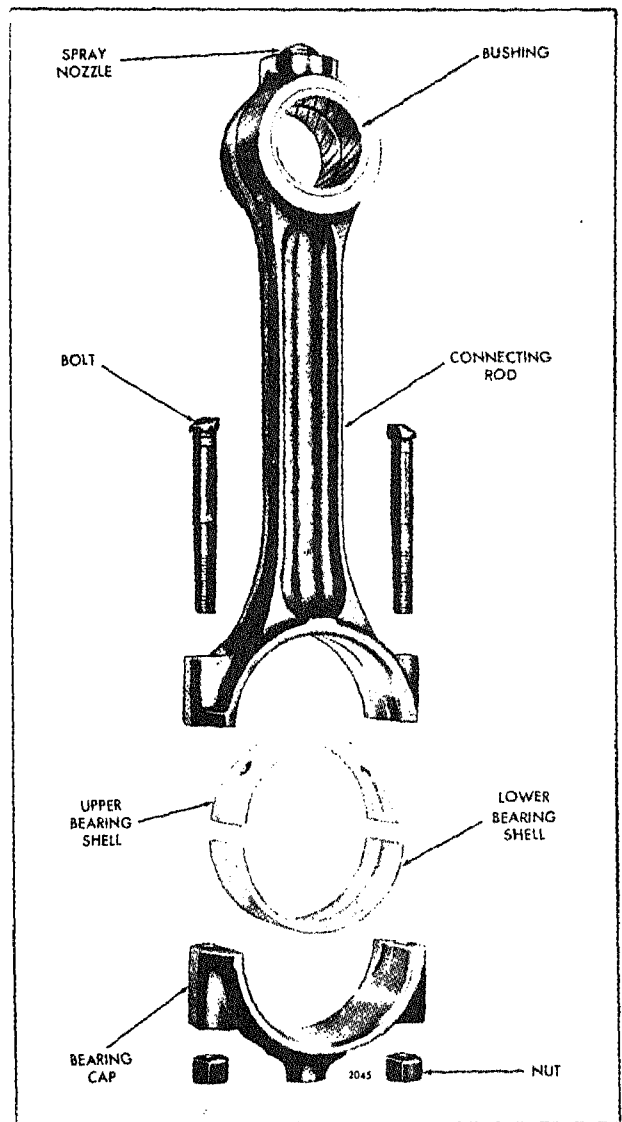

Fig. 2 - Connecting Rod Details and Relative Location of Parts
1. Starting with the bottom ring, install the compression rings with tool J 8128 as shown in Fig. 2. To avoid breaking or overstressing the rings, do not spread them any more than necessary to slip them over the piston.